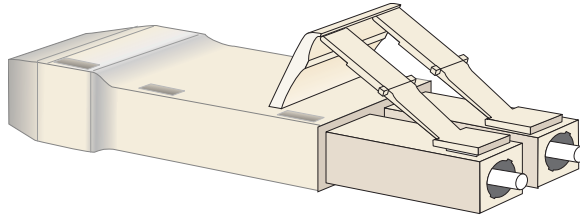

Figure 5: Loopback plug
- **Loopback plug**—An SFP multi-mode (shortwave laser) or single-mode (longwave laser) loopback plug, as shown in Figure 5, is required to perform port loopback diagnostic tests. One loopback plug is shipped with the director, depending on the type of port transceivers installed. Both plugs are shipped if shortwave laser and longwave laser transceivers are installed.